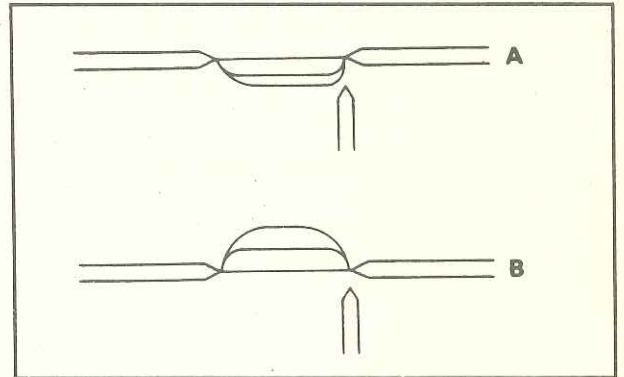

Fig. 5-9 Measuring distance of spark jumping across 3-point spark gap
- b. Connect a fully charged battery to tester. Observing spark jumping across a 3-point spark gap, turn knob and measure stable maximum jumping distance. If spark appears as B in Fig. 5-9, connect high-tension cable to tester in reverse direction and measure jumping distance with spark in form A in the same figure.